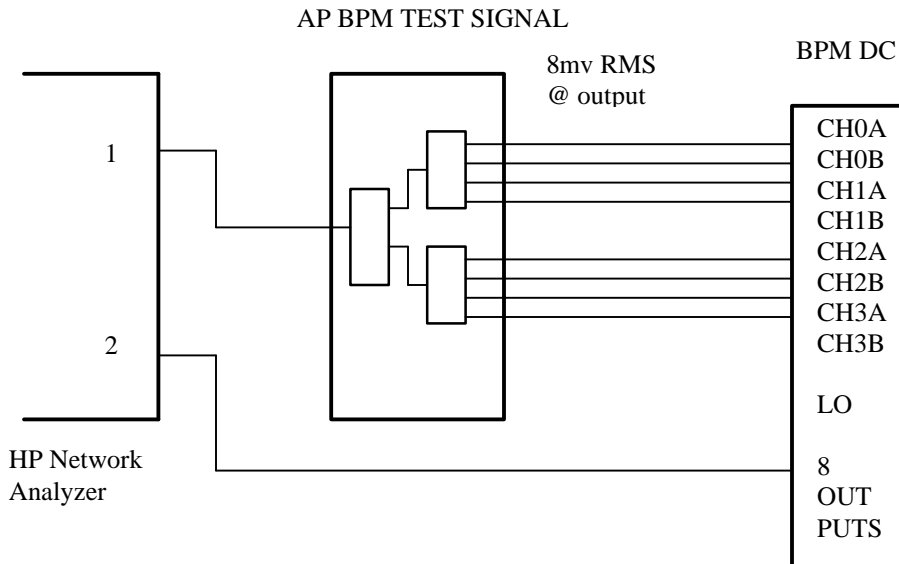

Figure 3
- 3.) Connect cables as shown in Figure 3.